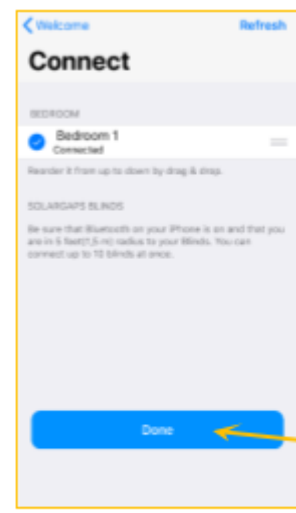

Figure 7
**10.2.3.4.** Click **Done** to confirm the connection (Fig. 7).